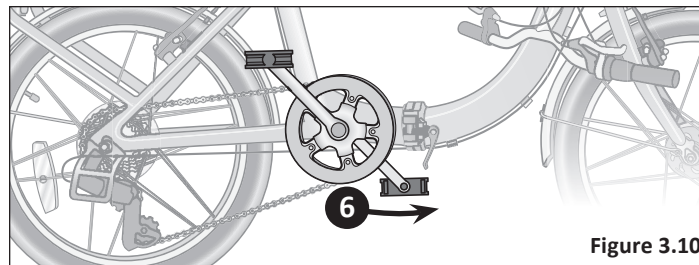

Figure 3.10
- 6 Raise the kick stand and rotate the crank arms so that the left crank is pointed forward and down at a 45 degree angle. **Figure 3.10**